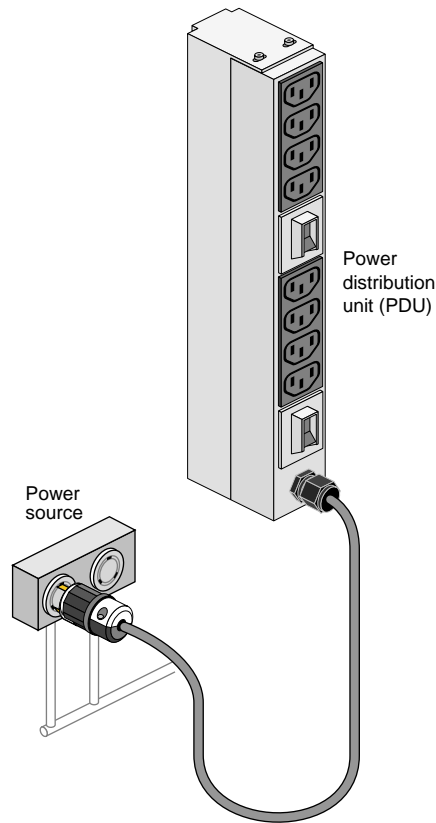
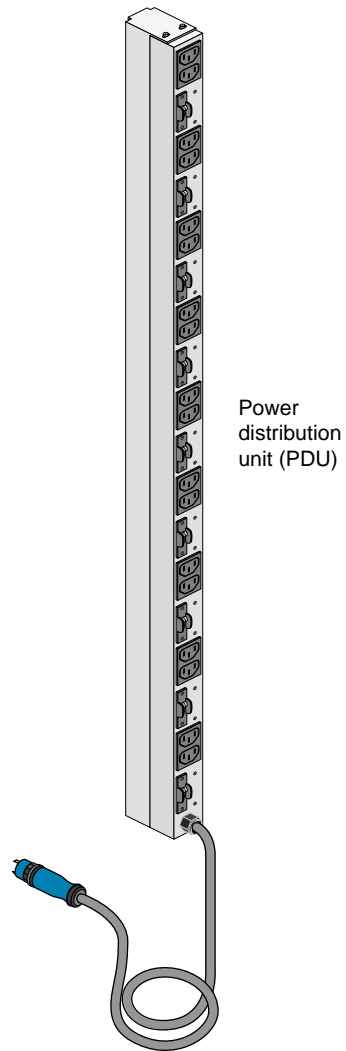

Figure 1-4 Eight-Outlet Single-Phase PDU Example
Figure 1-5 Three-Phase PDU Example
4. Make sure that all PDU circuit breaker switches (see the examples in Figure 1-4, and Figure 1-5 on page 7) are turned on to provide power when the system is booted up.
Figure 1-5 on page 7 shows an example of the three-phase PDU.